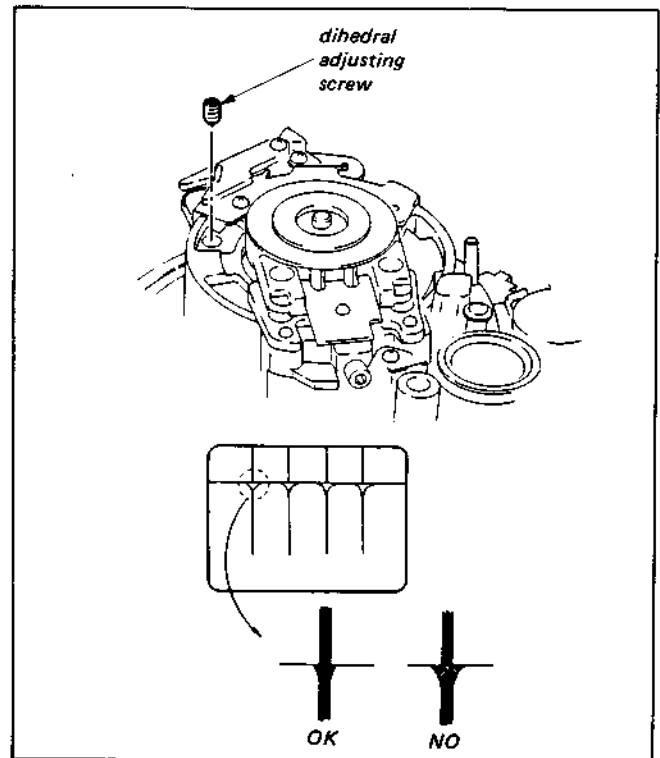
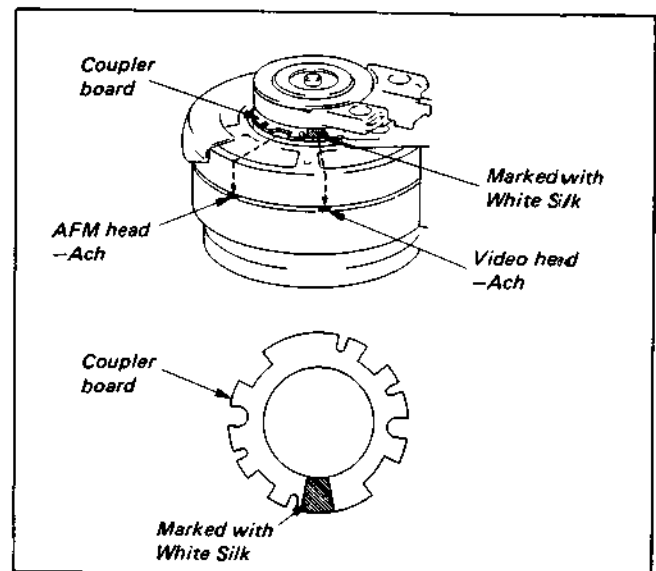

Fig. 3-10 Video head dihedral adjustment (1)
Fig. 3-11 Video head dihedral adjustment (2)
- 1) Insert the two dihedral adjusting screws (Jig Ref. No. J-10) into the adjusting screw holes on both sides of the video head - Ach (see Fig. 3-11) so that the tops of the adjusting screws flush with the upper face of the video head disk as shown in Fig. 3-10. (If screwing in is not sufficient, the video head disk does not rotate as the heads of the adjusting screws ram the upper drum. Conversely, if screwed in more than necessary, the head base is moved, and video head dihedral adjustment becomes very inaccurate.)
Be most careful the head under the part on the coupler board that is marked with white silk is the video head - Ach. The side marked b with white silk is the reference side. Never move it. (See Fig. 3-11.)
- 2) Apply jig (J-2) vertically to the capstan motor shaft and the no. 8 guide sleeve, as shown in Fig. 3-10.
- 4) Apply the jig to the capstan motor shaft and the no. 10 guide shaft of the pinch arm assembly in the vertical attitude as shown in Fig. 3-11.
- 6) Apply the jig again as shown in Fig. 3-10, and check the verticality of the capstan motor shaft. If it is not accurately vertical, repeat the processes from 3).